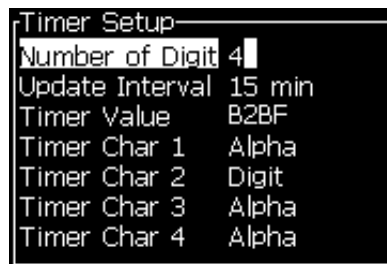

Figure 5-43: *Timer Setup*
- 4 Set the following values for *Timer Setup* (see Figure 5-43).